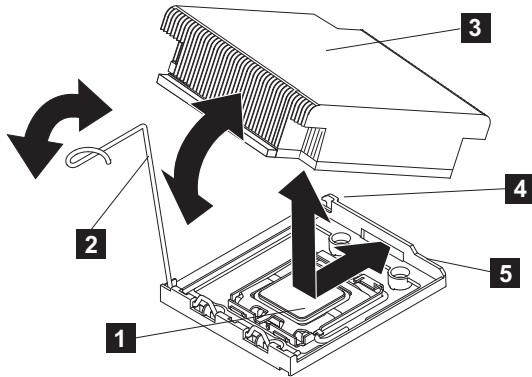

Figure 199. Installing the heat sink on the SAN Volume Controller 2145-DH8 microprocessor
7. Align the heat sink on top of the microprocessor, as shown in Figure 199.